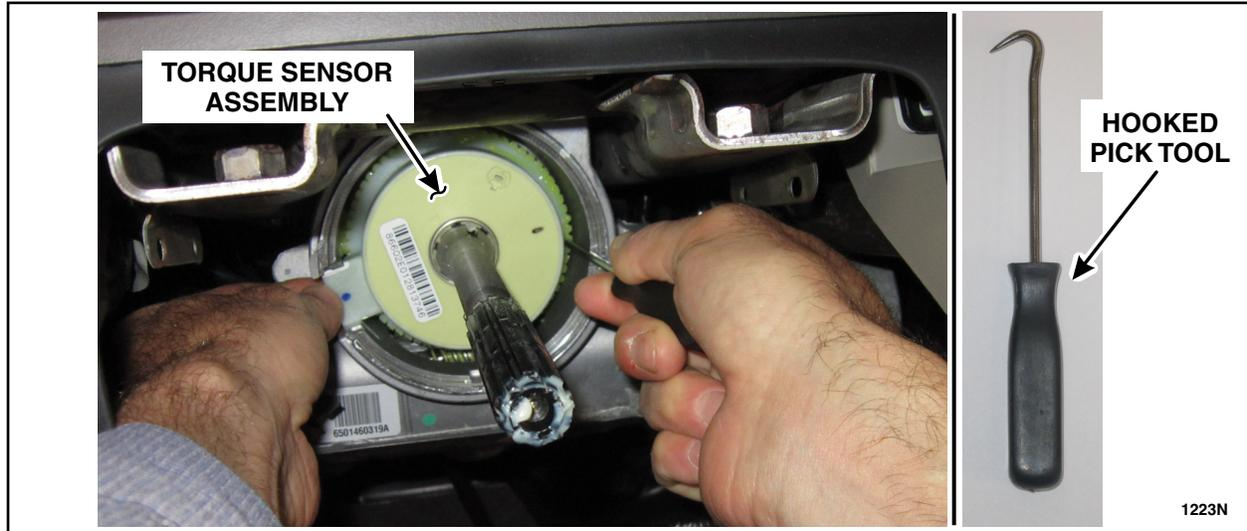

FIGURE 14
19. Prying gently from the back, remove the torque sensor assembly. Remove the sensor by gently pulling up on the sensor wires while using a hooked pick tool to lift the opposite side of the sensor. See Figure 14.